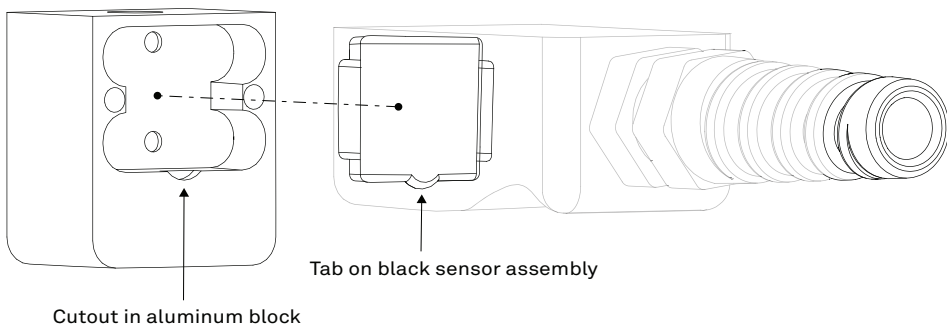

Figure 56 Align tab and notch
6. Align the half-circle tab on the lower edge of the black plastic sensor assembly with the half-circle cutout on the aluminum block (Figure 56).